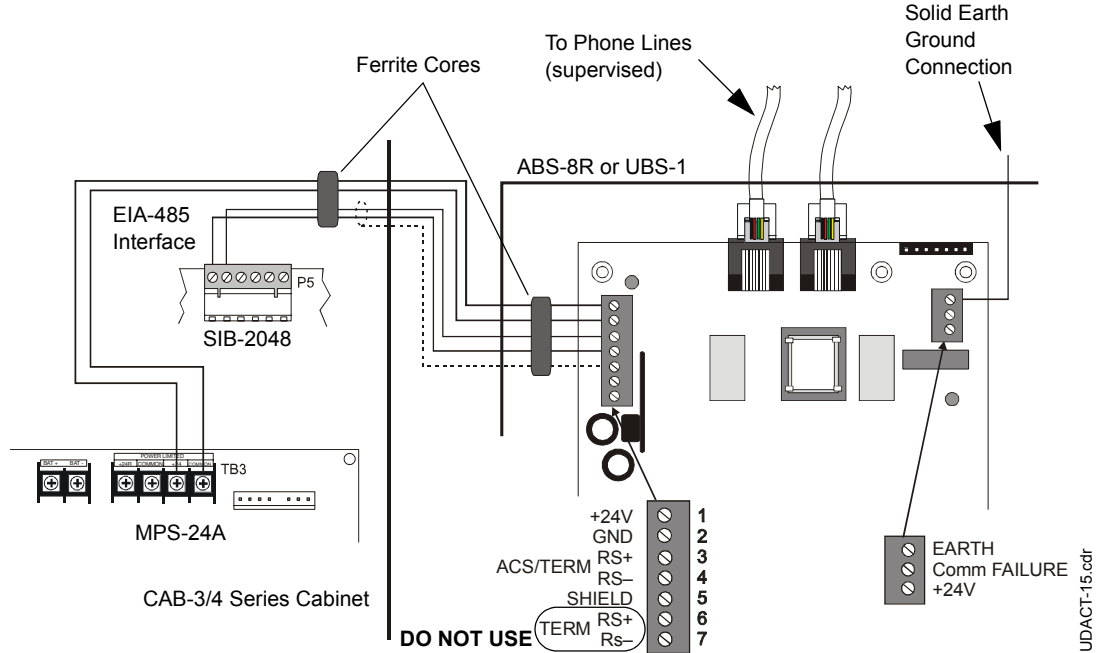
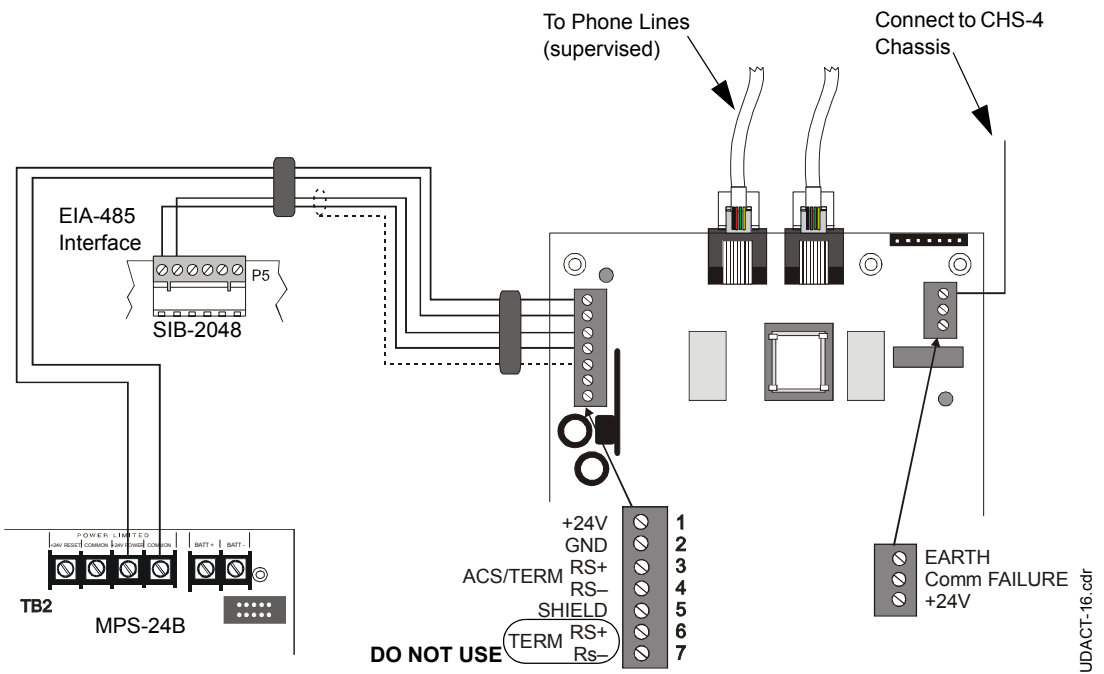

Figure 29 UDACT and AM2020/AFP1010 with MPS-24A
Figure 30 UDACT and AM2020/AFP1010 with MPS-24B
Refer to Figure 29 and Figure 30 on page 110.
2. Recommended wire is 12 AWG (3.25mm²) to 18 AWG (0.75mm²), twisted pair, shielded cable. Connect only one end of shield: a) shield may be connected to cabinet (earth ground) at fire alarm panel, or b) shield may be connected to TB1 Terminal 5 (Shield) at UDACT as shown in Figure 29